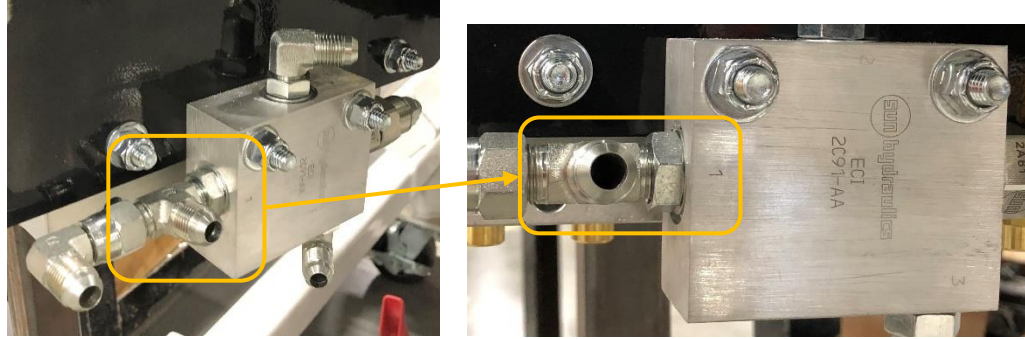

Figure 2. Tee fitting on Port 1
- b. If there is a counterbalance valve and it has a tee fitting connected to Port 1 as identified in Figure 2, this bulletin does not apply.